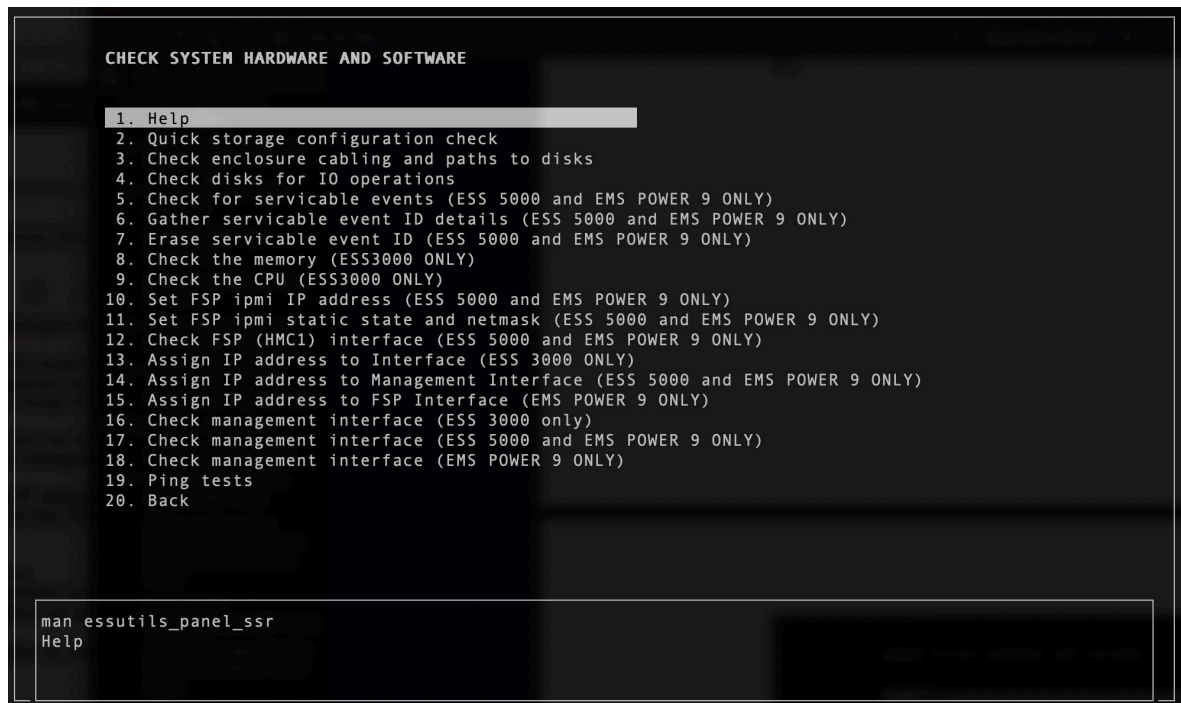

Figure 33. Canister SSR Tools menu options
- j. Run the following steps as shown in the Figure 33 on page 60:
- j. Run all steps in the SSR tools menu from option #2, #3, #4, #8, and #9, as shown in the Figure 33 on page 60